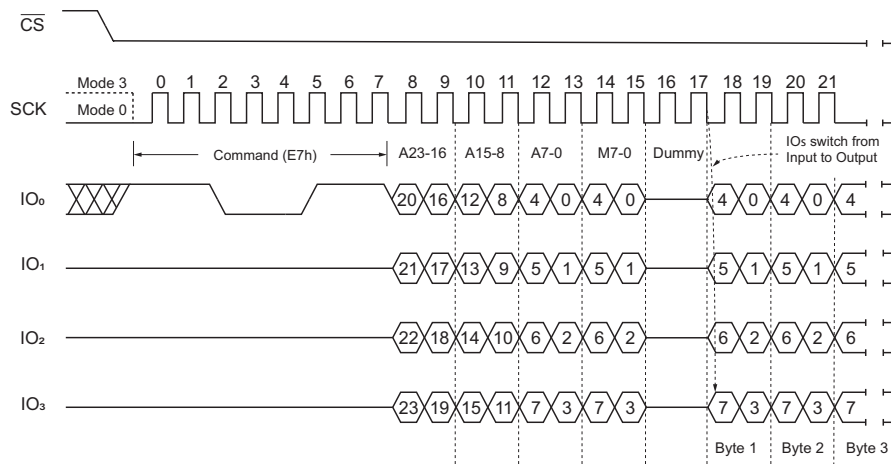

Figure 54. Word Read Quad I/O Command (Initial command or previous set M7-0 ≠ Ah, SPI Mode)
The Word Read Quad I/O command can further reduce command overhead through setting the Continuous Read Mode bits (M7-0) after the input Address bits (A23-0), as shown in Figure 54. The upper nibble of the (M7-4) controls the length of the next Word Read Quad I/O command through the inclusion or exclusion of the first byte command code. The lower nibble bits of the (M[3:0]) are don't care (X). However, the IO pins must be high-impedance before the falling edge of the first data out clock.